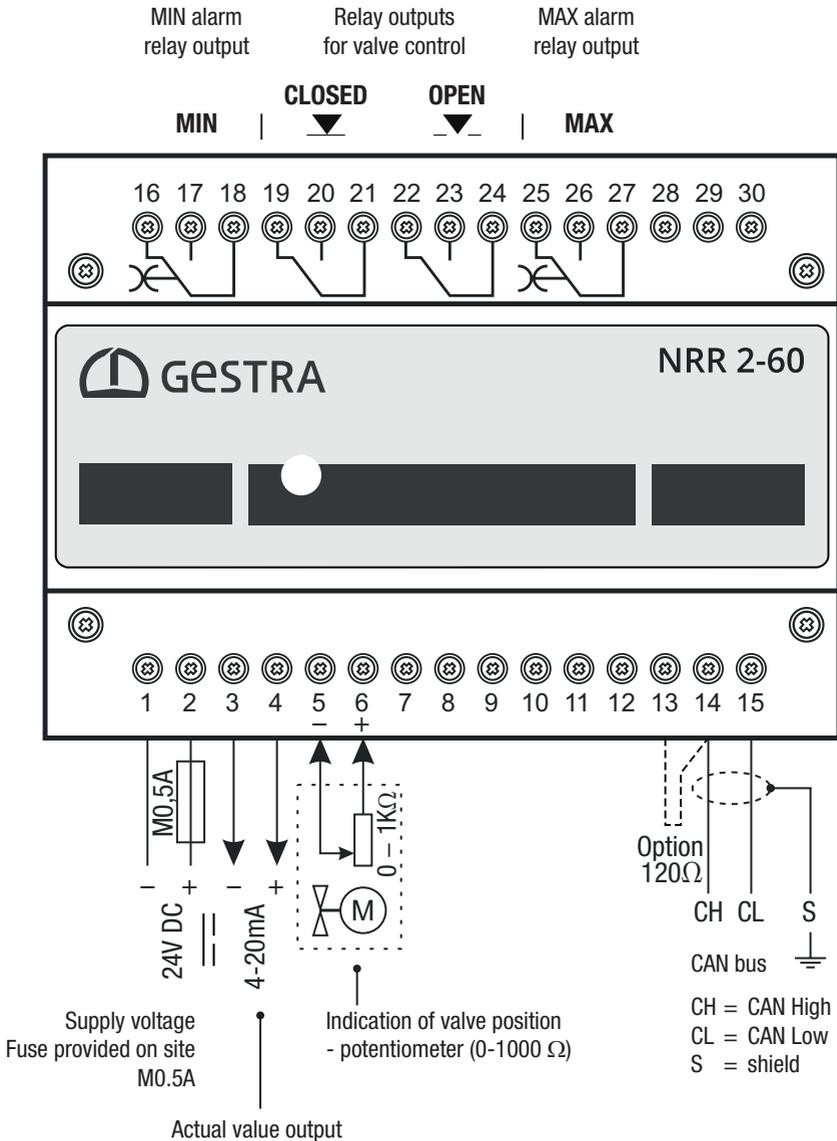
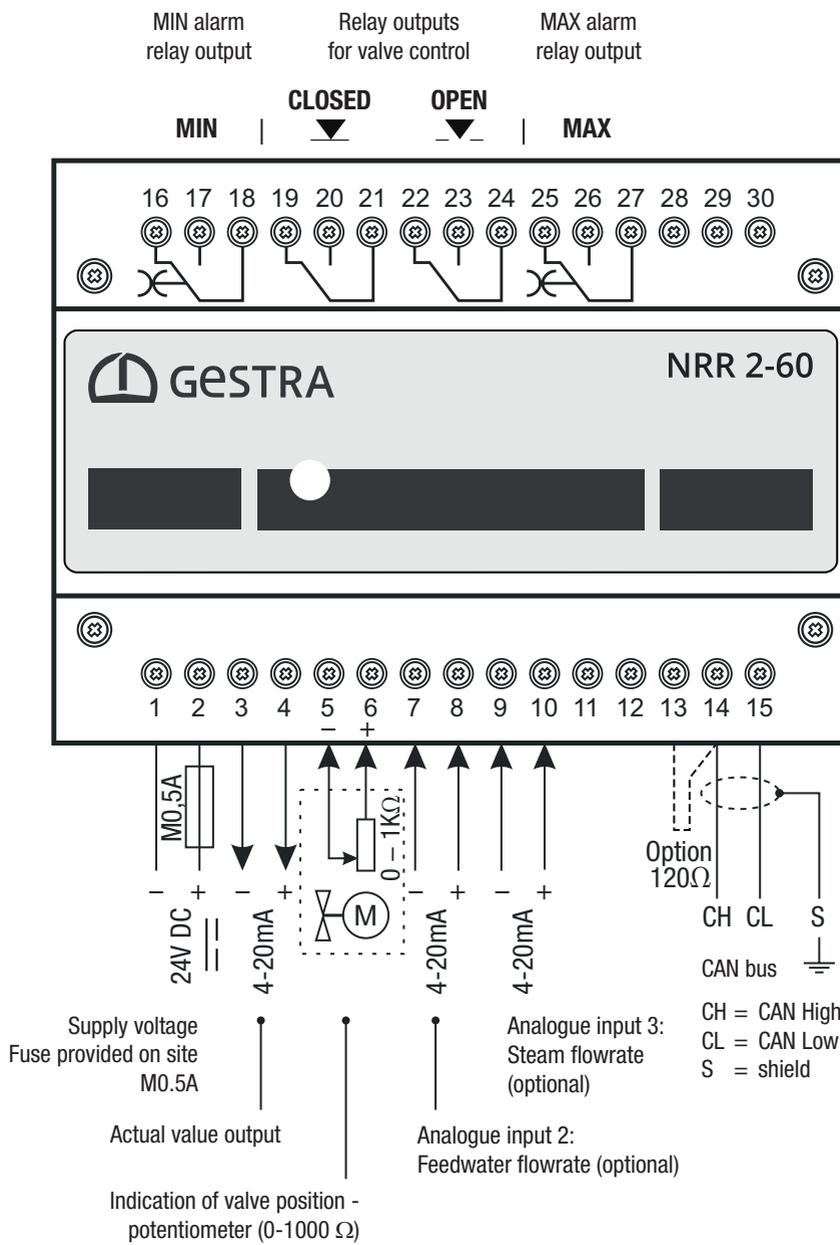

Fig. 6
Fig. 7
- Connect the level controller and all associated components as shown in the wiring diagrams Fig. 6/Fig. 7 in this Manual.
- Connect the outputs as shown in wiring diagrams Fig. 6/ Fig. 7.